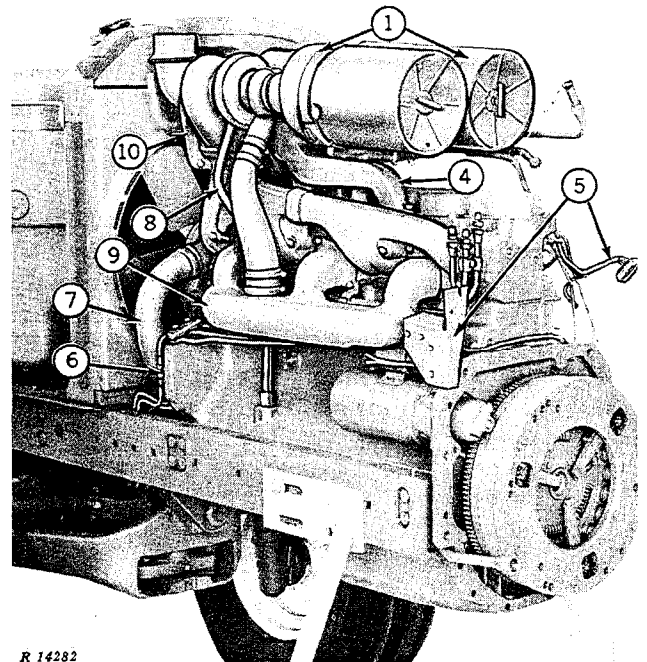

Fig. 20-Left Side of Engine
4. Remove water manifold (Fig. 20), bypass pipe, thermostat housing, and upper water hose.